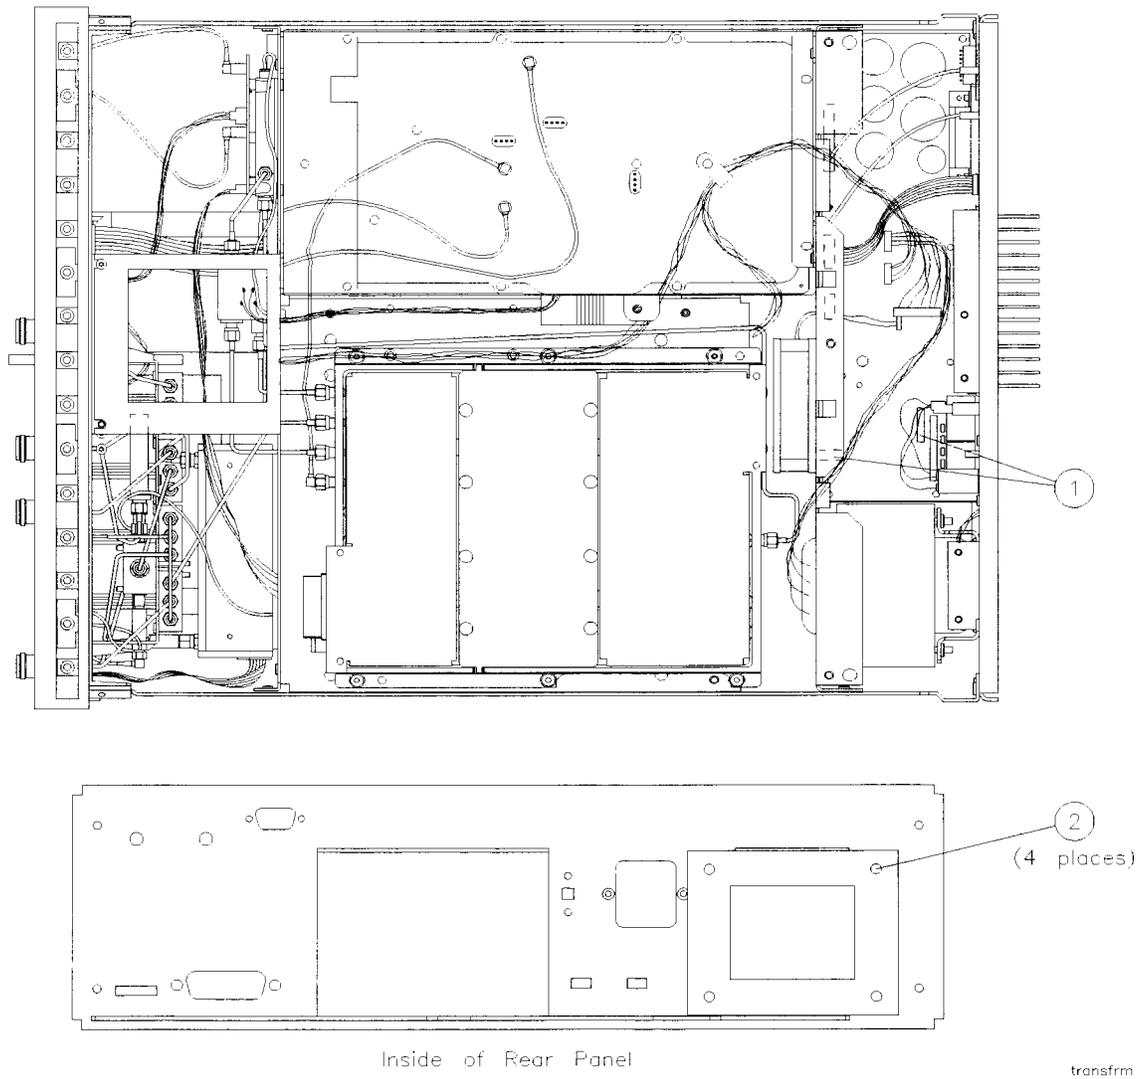

Figure 4-15 T1 Transformer Assembly Replacement
2. Replace the four screws securing the transformer to the rear panel chassis (2). Refer to Figure 4-15 on page 4-29.
3. Connect the cables to J1 and J9 (1).